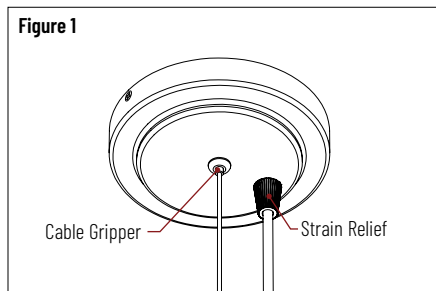

Figure 2
5. Attach the junction box plate to junction box with screws (not included). (Figure 2)